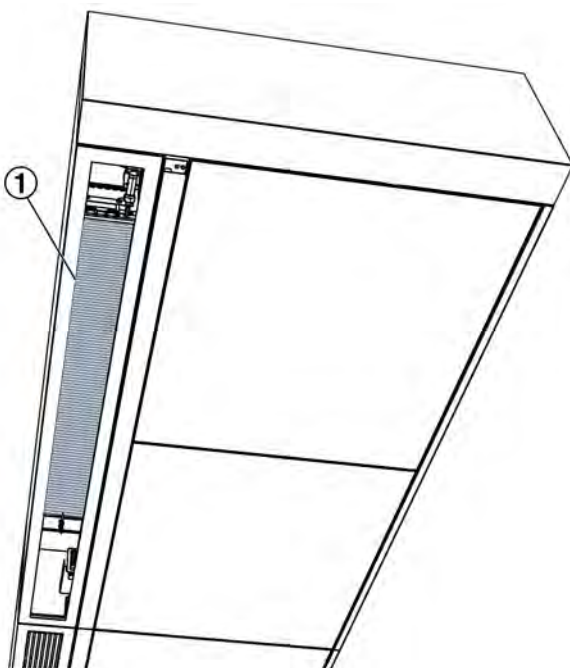

Fig. 89: Vacuum the heat exchanger
4. ▶ Depressurise the water-side connections (Fig. 89 /1) and disconnect the pipes from the heat exchanger.